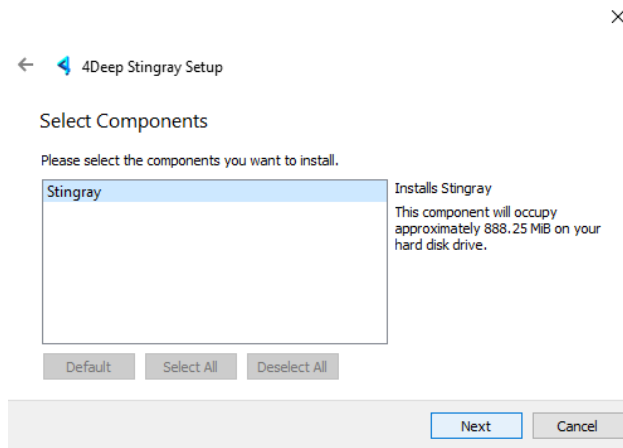

Figure 1: Stingray installer, selection of the installation package
- Install Stingray by running StingrayInstaller.exe and following the onscreen instructions. Selecting the default parameters should typically be acceptable for most installations, shown in Figure 1.